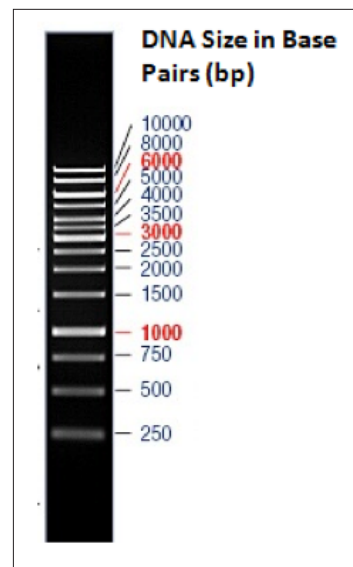

Figure 3.5: Molecular Weight Standard (1 kb DNA ladder from Fermentas). Image Source: Thermo Scientific.
14. In your lab notebook or on a separate sheet of paper, make a table similar to **Table 3.1** to list where you will load each sample from your group on your DNA gel. You will also be loading molecular weight standards on each gel. Molecular weight standards (sometimes abbreviated "MW") contain pieces of DNA of known sizes (see **Figure 3.5** at the end of this handout). This will help you determine whether your PCR reactions produce DNA bands of the expected size (about 650 base pairs). **Be sure to include your molecular weight standards in your table and on your gel!**
23. Review **Figure 3.5**, which shows the size of each DNA band in your molecular weight standard.